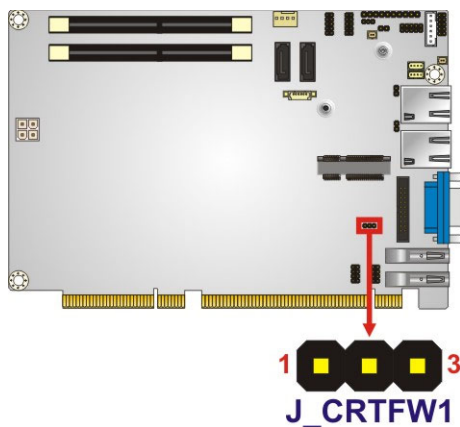

Figure 3-7: CRT FW Update Connector Location
- CN Location:** See Figure 3-7